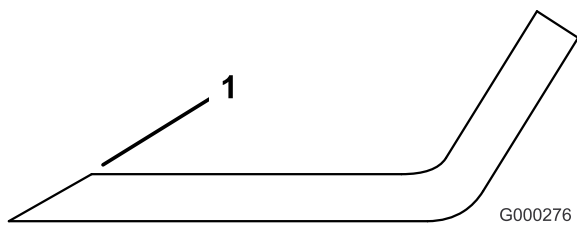

Figure 101
1. Use a file to sharpen the cutting edge at both ends of the blade (Figure 101). Maintain the original angle. The blade retains its balance if the same amount of material is removed from both cutting edges.